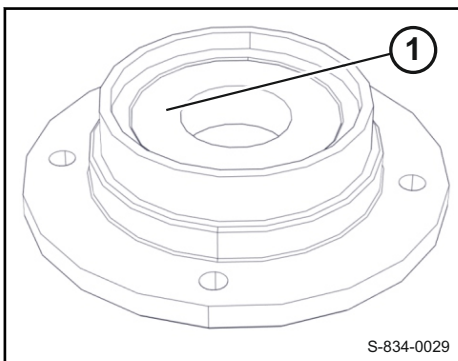

Fig. 233
10. Remove cylinder roller bearing 1 ↪ Fig. 233 from the flange.